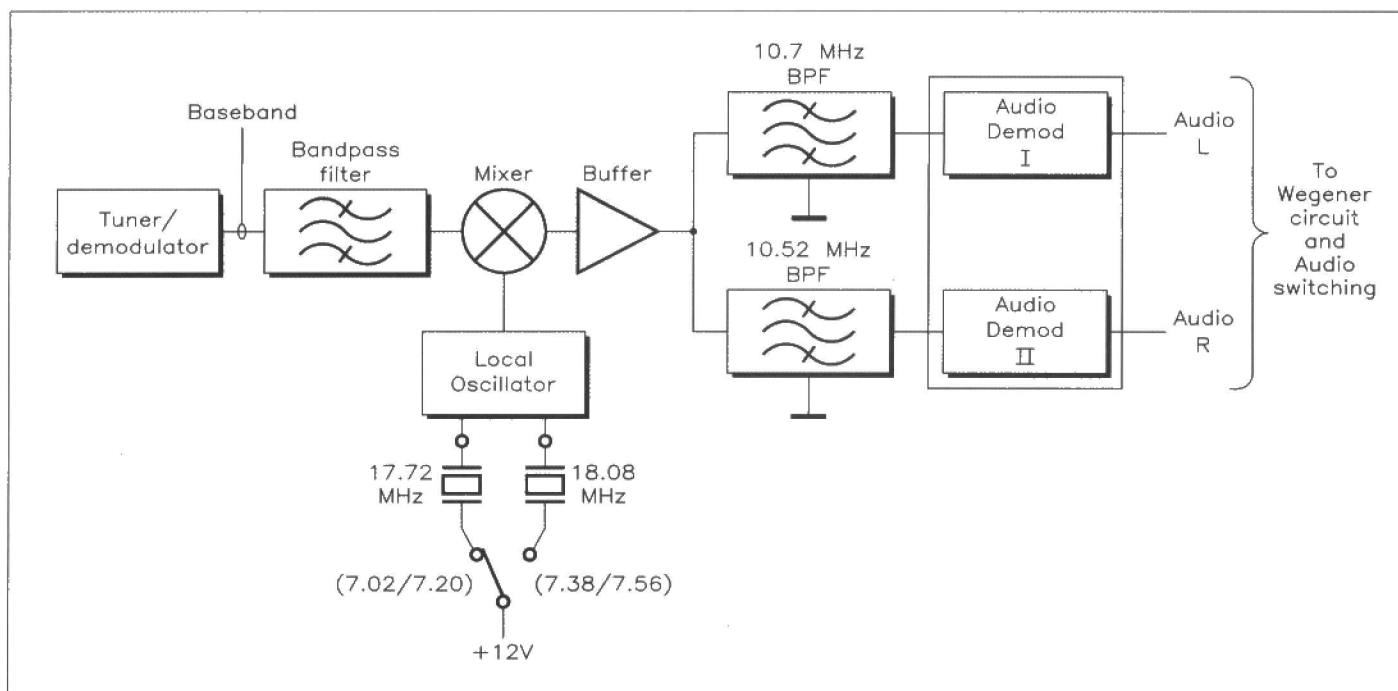

Figure 5. Block diagram of 'Amstrad-style' fixed-subcarrier audio system.
The Amstrad audio system, shown in Figure 5, is simple but effective. Based on the superheterodyne principle (refer to Ian Poole's article in Issue 59 of 'Electronics'), its circuit is based around a local oscillator (LO) that can be switched to operate on either 17.72 or 18.08MHz. The LO is then mixed with the baseband signal. And now for the clever bit. The mixed signal is sent to two demodulators, each via a different ceramic IF filter; one is centred on 10.52MHz, the other 10.7MHz. When the incoming subcarriers are 7.02 and 7.20MHz, the 17.72 LO frequency is used. As a result, the difference frequencies applied to the relevant IF filters are $(17.72 - 7.02 = 10.7\text{MHz})$ and $(17.72 - 7.20 = 10.52\text{MHz})$. When the desired subcarriers are 7.38 and 7.56MHz, the LO is switched to operate at 18.08MHz, whereupon the different frequencies will still be 10.7MHz $(18.08 - 7.38)$ and 10.52MHz $(18.08 - 7.56)$.